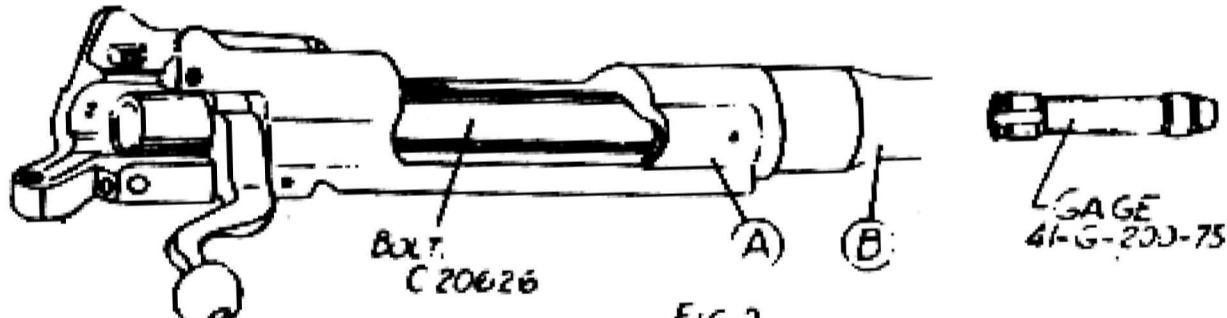

FIG.2
- WITH HEADSPACE GAGE 41-G-200-75 INSIDE THE SHELL CHAMBER, FIELD TEST BOLT SHOULD CLOSE FULLY. IF IT DOES NOT CLOSE FULLY ON HEADSPACE GAGE, AS IN FIG 2, INSUFFICIENT HEADSPACE IS INDICATED. THIS MAY OCCUR WHEN A SERVICEABLE OR NEW BARREL IS INSTALLED. NOTE: INSUFFICIENT HEADSPACE MAY BE CORRECTED WITH A HAND REAMER (REFER TO OPERATION NO. 42-44).